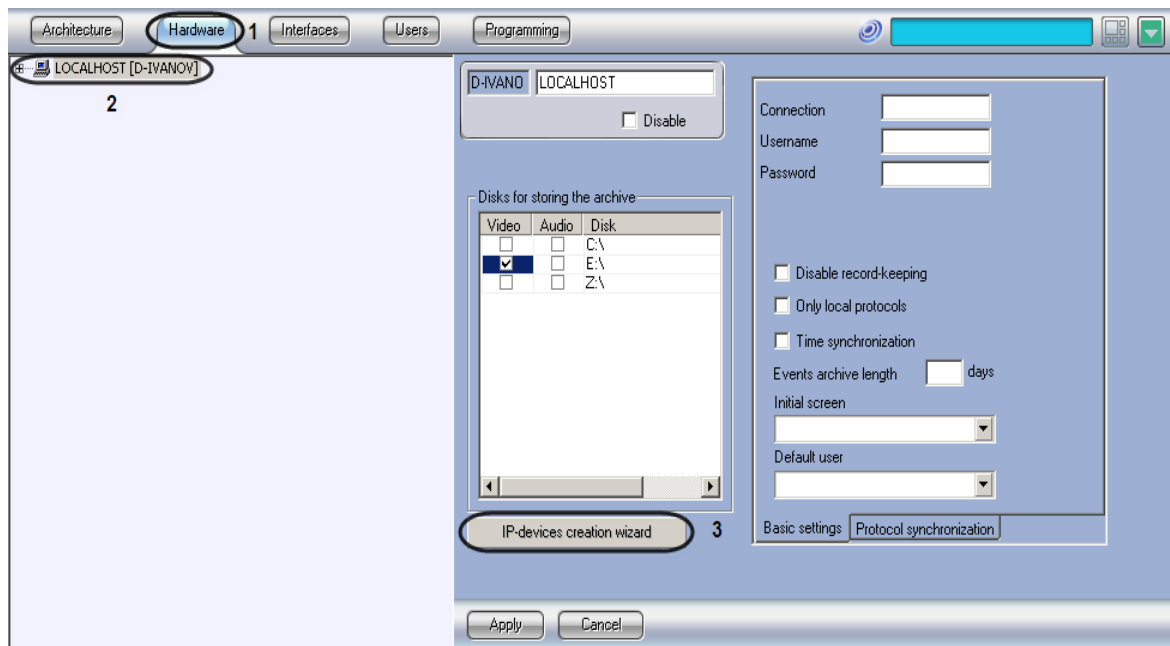

Figure 3.2-3 The IP devices creation wizard window
1. Go to the **Hardware** tab in the **System settings** dialog box (Figure 3.2-3, 1).
2. In the object tree select the **Camera** object corresponding to the configured Server (Figure 3.2-3, 2).
3. Click **IP devices creation wizard** on the setting panel of the selected object (Figure 3.2-3, 3).